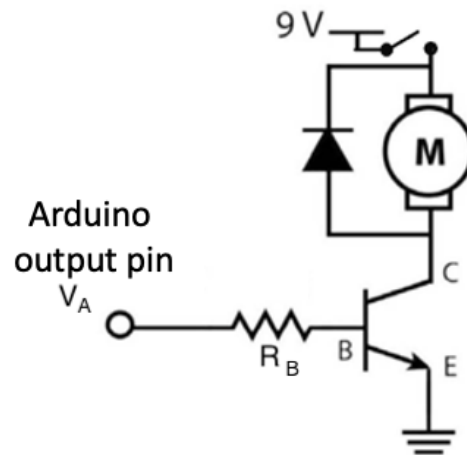
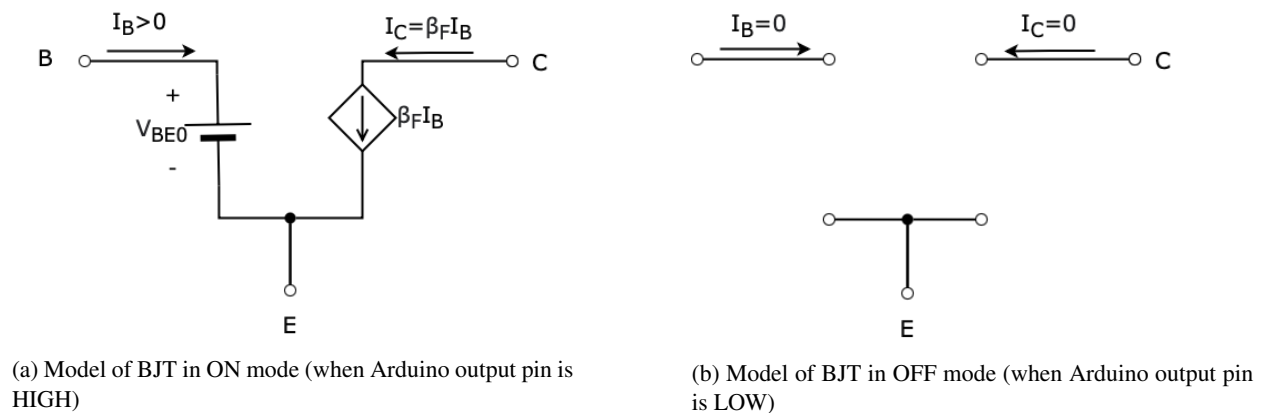

Figure 3: Motor Controller Circuits
Figure 4: Model of NPN BJT in Different Modes
BJT in Figure 3 is switching between **ON** and **OFF** modes when the output voltage from Arduino V_A is **HIGH (5V)** and **LOW (0V)** respectively. The model for both ON and OFF states are shown in Figure 4. When the BJT turns on, V_{BE} can be modeled as a fixed voltage source with voltage value V_{BE0} which is usually between 0.6V and 0.8V. For NPN BJT in TinkerCad, the value of V_{BE0} is approximately 0.8V in ON mode. In ON mode, there is a **Current Control Current Source** modeled between “Collector(C)” and “Emitter(E)”, i.e., current at the “Collector (C)” is an amplified version of current at the “Base (B)” (notice that I_B has to flow into the “Base(B)” for the relation $I_C = \beta_F I_B$ to hold.) β_F is called the **Common-Emitter Current Gain**, e.g. β_F is around 100 to 200 in our circuits. When the Arduino output pin V_A is HIGH (5V), the voltage across the resistor R_B in Figure 3 is $V_{HIGH} - V_{BE0}$. So we can calculate the current flowing into the “Base (B)”, I_B , and the current flowing into the “Collector (C)”, I_C , as
From Equation (1) and (2), we know that the resistor in the motor controller circuit (Figure 3) is used for defining the current flowing through the Arduino output pin, BJT, and motor. Therefore, we should carefully choose the value of the resistor considering the maximum current that BJT and Arduino pin can handle and the current required to drive the motor. As you will see in the lab, we can also control the rotation speed of the motor by alternating the resistor value. As we increase the value of the resistor, the current flow through the motor decreases which slows down the motor rotation.